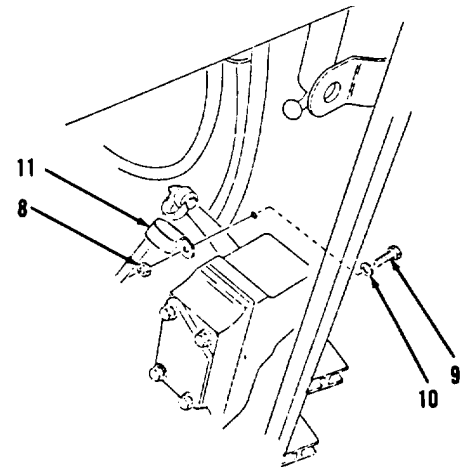

Figure 11-4.
15. Install clip (11), washer (10), bolt (9) and nut (8, Figure 11-4).